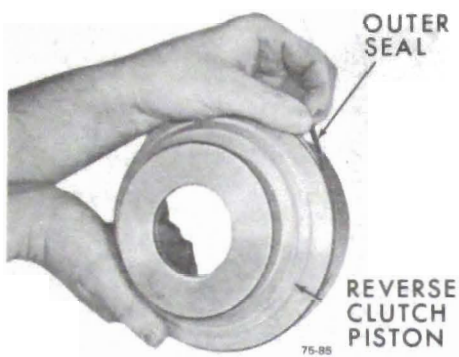

Figure 75-240
1. Install low and reverse clutch piston outer seal. See Figure 75-240.